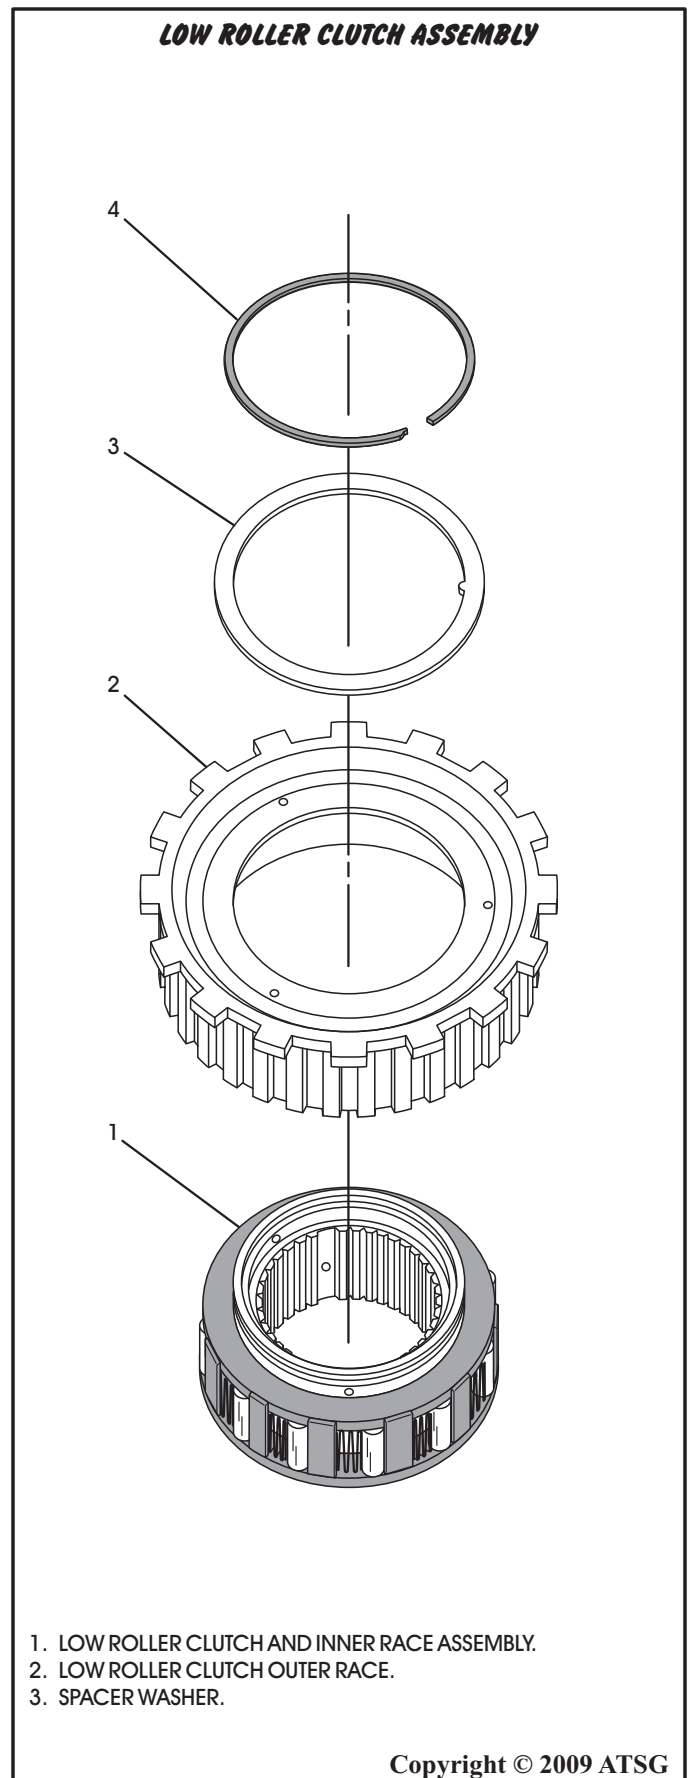

Figure 55
8. Install the inner race into the outer race. While holding the inner race, rotate the outer race in a clockwise direction to install (See Figure 55).
9. Install the spacer washer on top of the outer race as shown in Figure 55.